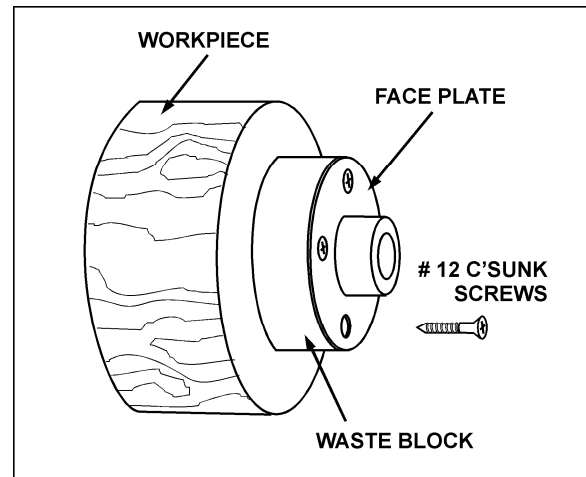

Figure 29
- Make a block the same diameter as the face plate, Figure 29. Both waste block and workpiece should have flat surfaces for gluing.